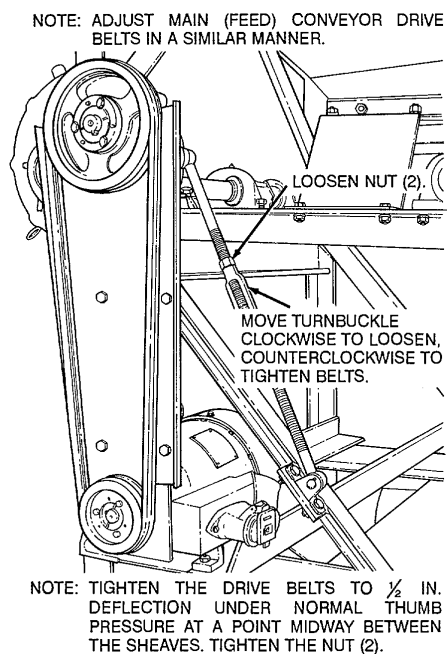

Figure 58. Feeder drive belts, adjustment.
- b Adjust the return (under) conveyor drive belts in the same manner as the feeder drive belts (fig. 58).
- b. Adjust the main (feed) conveyor drive belts in the same manner as the feeder drive belts (fig. 58).